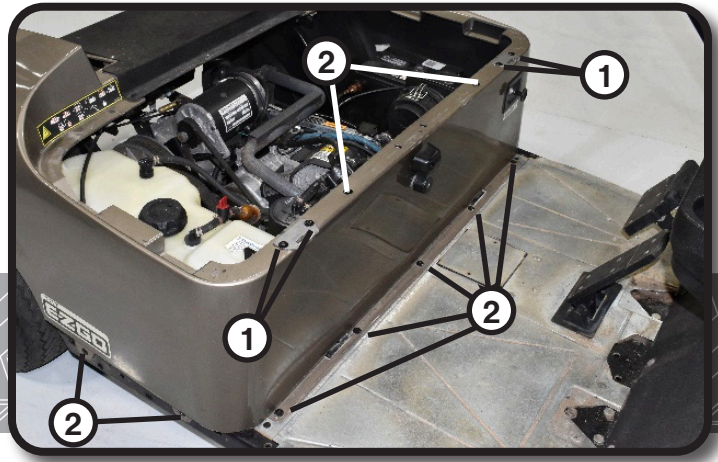

Fig. 1
Drill out four (4) rivets (Item 1) securing the seat hinges to the body. Retain the hinges. Drill out the eleven (11) remaining rivets (Item 2) that secure the body to the vehicle. See Fig. 1.